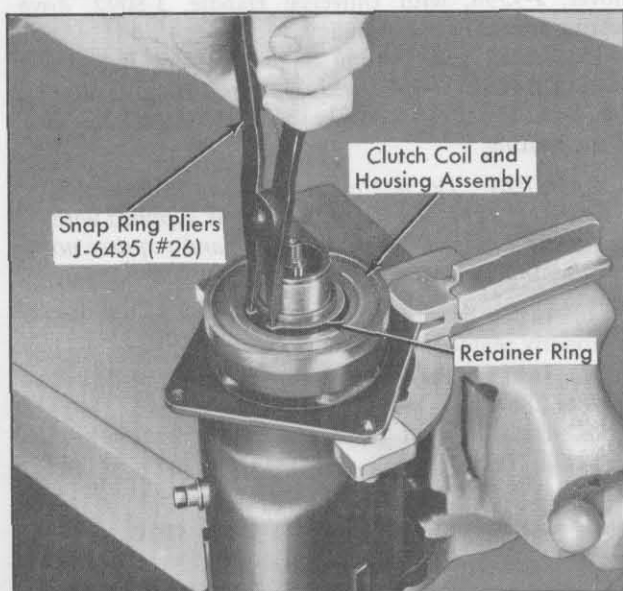

Fig. 1-67 Removing Coil Housing Retainer Ring
4. Remove coil housing retaining ring using Snap Ring Pliers, J-6435 (#26), Fig. 1-67.